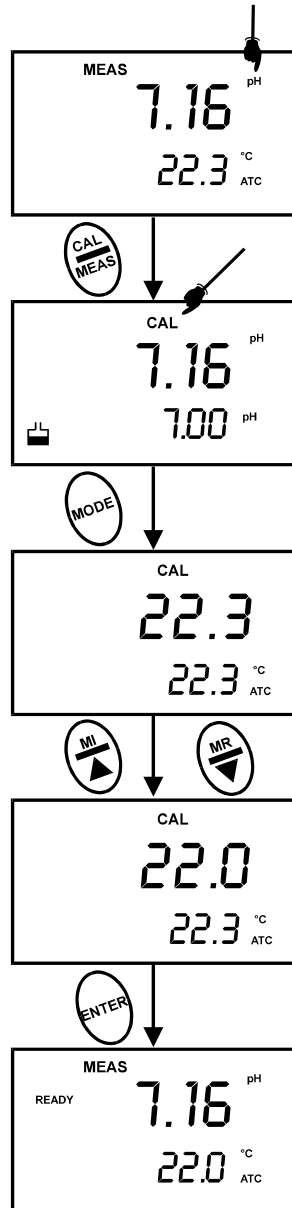

Figure 12 - Temperature calibration
7. Once you have selected the correct temperature, press the ENTER key. The meter automatically returns to pH measurement mode. See Figure 12.